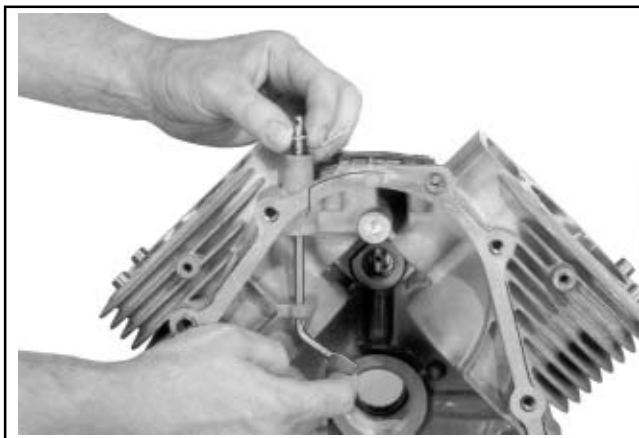

Figure 9-71. Pulling Governor Cross Shaft.
2. Pull the cross shaft with small washer out through the inside of the crankcase. See Figure 9-71.